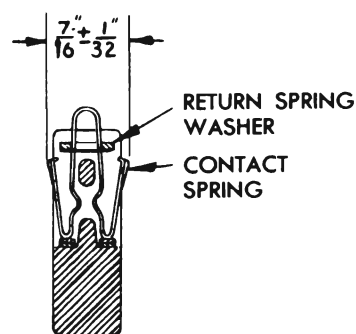

Figure 10-39—Contact Spring Dimension
4. Check condition of contact spring and replace it if burned or otherwise damaged. The free width of spring across the points, with return spring washer in place, is shown in figure 10-39.